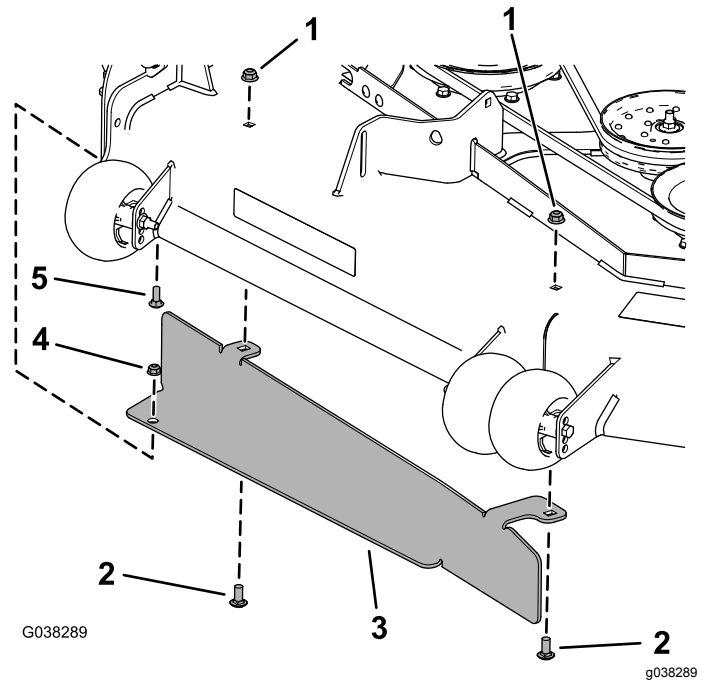

Figure 33
2. Install the baffle using the carriage bolt (5/16 x 7/8 inch), flange nut (5/16 inch), 2 carriage bolts (3/8 x 7/8 inch), and 2 flange nuts (3/8 inch) as shown in Figure 33.